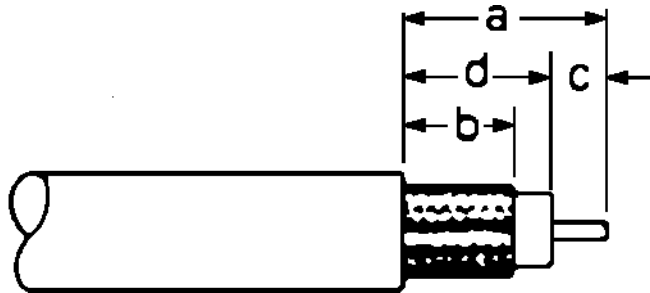

Figure 7: Stripping the coax cable jacket
1. Strip cable jacket to the following dimensions (in inches), as illustrated in Figure 7: 'Stripping the coax cable jacket,' below: $a=0.57$, $b=0.34$, $c=0.14$, $d=0.43$. Do not nick the center conductor.